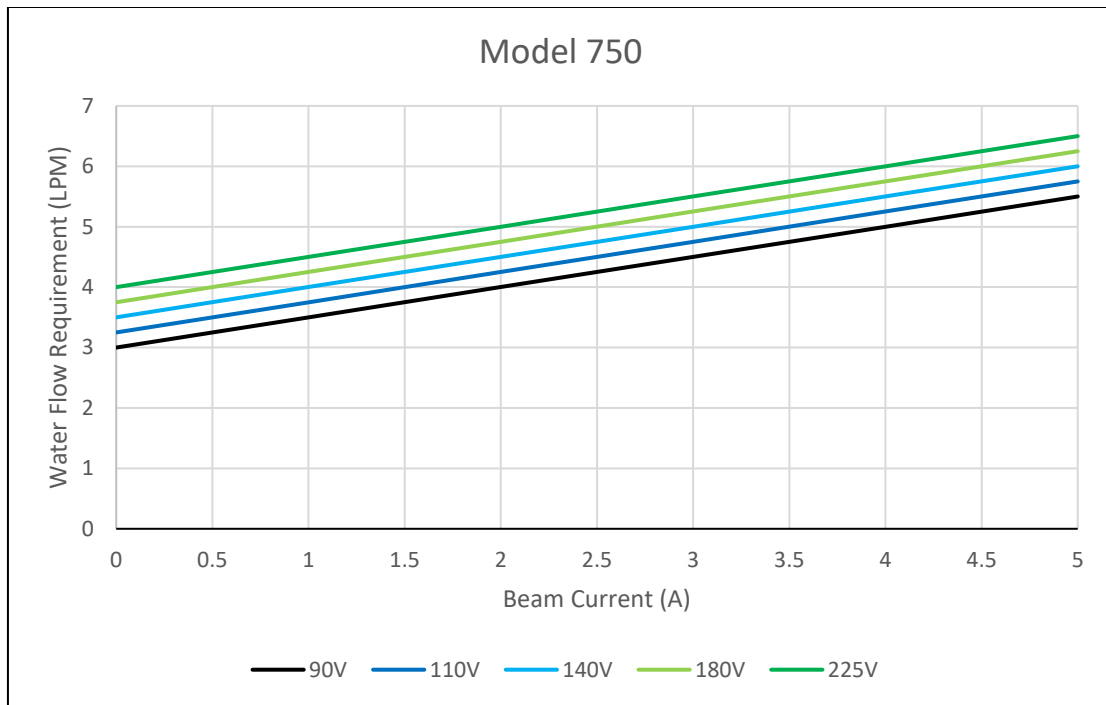

Figure 2-2, Model 750 Minimum Water Flow Chart
1. **Water Flow Monitoring.** The ion source will be damaged if insufficient cooling water is flowing in the anode. To prevent this situation, the water flow is directly and continuously monitored by an integrated Water Flow Monitor (WFM). The WFM produces a pulsed electronic output signal with the pulse frequency directly proportional to water flow. To enable the power supply to power ON, the WFM must register a minimum flow. The minimum flow for each model is listed in the following table. Below this limit, the power supply will not power on and an audible alarm will sound. For the correct installation and monitoring of the WFM, see figures 2-2, 2-3, 2-4 or 2-5